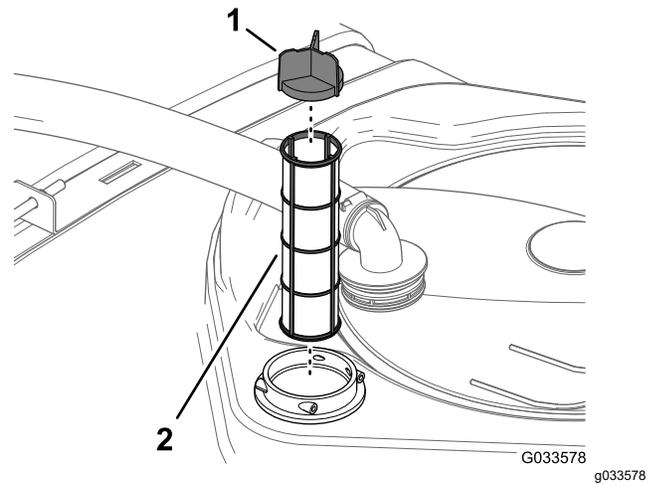

Figure 60
4. Remove the old suction filter from the filter housing in the tank (Figure 60).